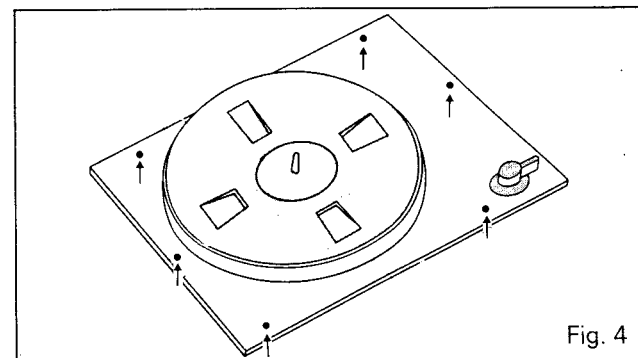

Fig. 4
- (3) When the six screws which hold the cabinet are removed, the cabinet and panel board can be lifted off. (Fig. 4).